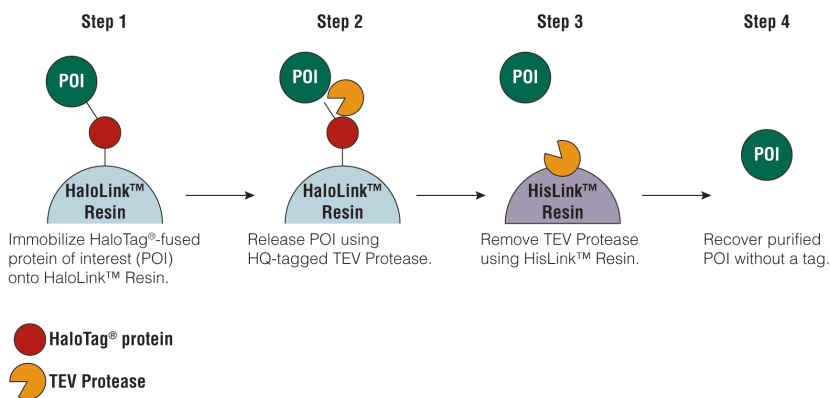

Figure 1. Streamlined purification process leads to higher yield of purified protein.
The HaloTag[®] Protein Purification System^(a-d) is based on a unique tag, the HaloTag[®] protein, which allows covalent, efficient and specific capture of the proteins expressed in *E. coli* as N-terminal HaloTag[®] fusion proteins. The HaloTag[®] protein is a mutated hydrolase (1–3) that covalently attaches to the HaloLink[™] Resin via an immobilized chloroalkane. The HaloTag[®] Protein Purification System allows stringent washing because of the covalent attachment of the HaloTag[®] protein to the resin. TEV Protease cleaves the target protein from the HaloTag[®] protein, which is bound to the HaloLink[™] Resin^(a,b). Next, the TEV Protease, which has an N-terminal (HQ)₅ tag, is removed from the protein of interest using the HisLink[™] Resin^(c,d), and the purified protein of interest is recovered. The general purification scheme is depicted in Figure 1.